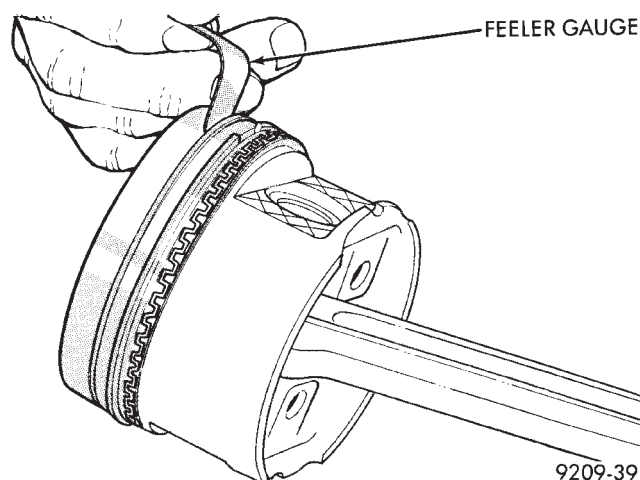

Fig. 15 Piston Ring Groove Clearance
(2) Check piston ring to groove clearance: (Fig. 15). Refer to specification (Figs. 16 and 17).